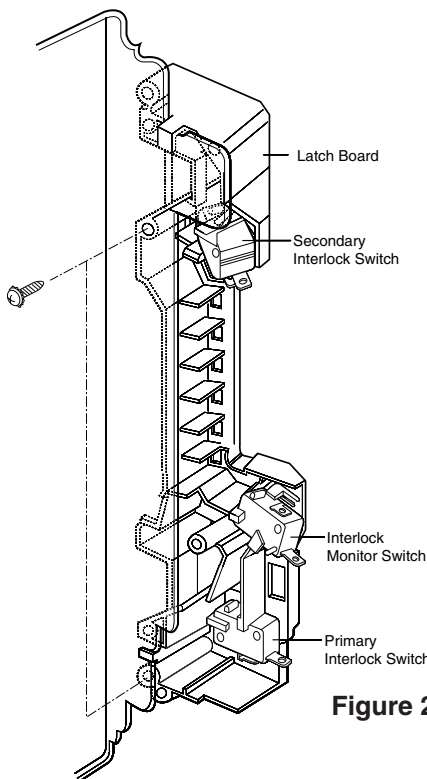

Figure 23
- (1) Set the microwave oven on its side so that you can see the latch board and the switches, as shown in Figure 23.